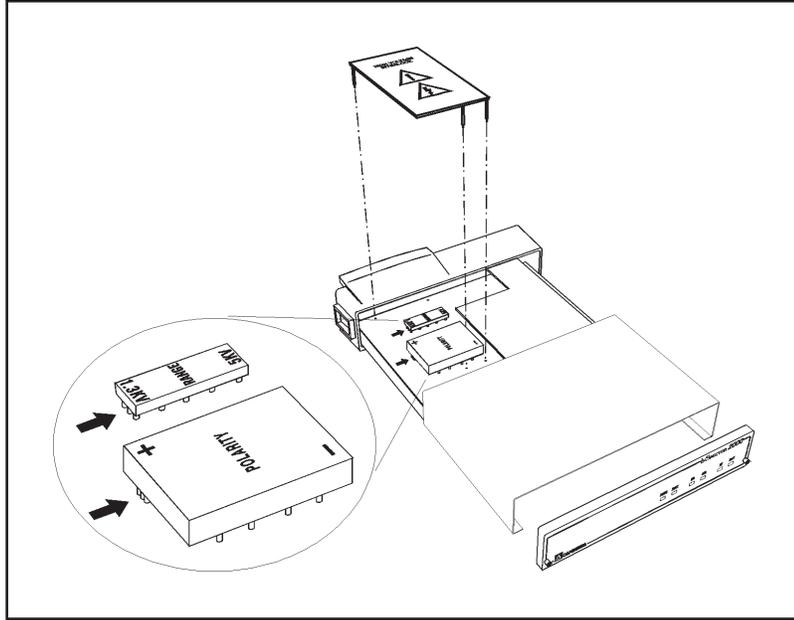

Figure 52 Reinstalling the High Voltage Interlock Board
1. The High Voltage Interlock Board has four connector pins and a nylon high voltage wedge, if equipped, which must be aligned and engaged with the associated receptacle on the High Voltage Board. Orient the Interlock Board so that the caution arrows point toward the rear panel, see Figure 52.